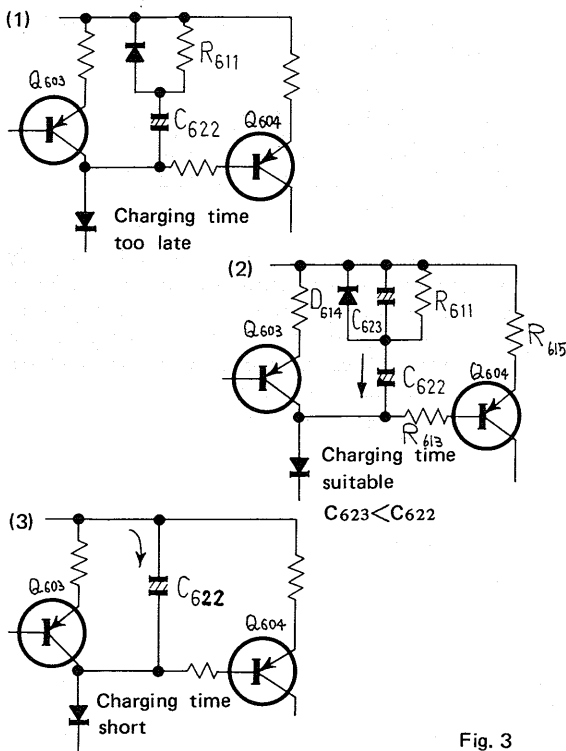

Fig. 3
- If we assume that C623 is omitted from the circuit, it would be equal to the circuit shown in Fig. 3-(1), where C622 is charged via R611.
As is evident from Fig. 3-(2), with C623 present and C622 almost instantaneously charge sufficiently to give a base current which will ensure the operation of Q604 (the charging current only flows in C623 and C622).
As shown in Fig. 3-(2), the charge on C623 and C622 will be discharged through D604 ~ R615 ~ Q604 ~ R613 and form the base current of Q604, maintaining Q604 in the ON state. (It flows primarily in the initial stages of the charge of C623.)
- If we assume that R611 is omitted from the circuit, it would be equal to the circuit shown in Fig. 3-(3), where C622 would be abruptly charged fully in an extremely small span of time.
As is evident from Fig. 3-(2), with R611 present, because C622 is charged via R611, there is an increase in the time taken to charge it: the charging time as short as 0.5 to 8 sec. is not enough to fully charge it.
How C622 is charged in state (1), (2) and (3) of Fig. 3 is diagramed in curves (1), (2) and (3) in Fig. 4.